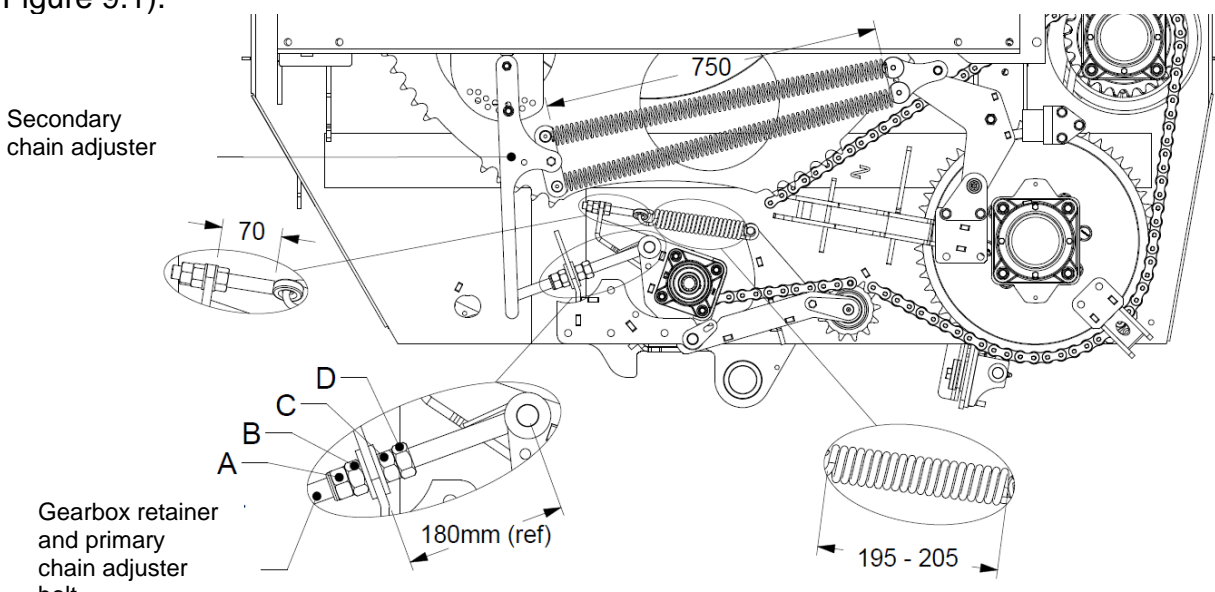

Figure 9.1: Chain tension details
- a)** With the ASA100 chain in place, tighten the threaded adjuster on the spring until there is approximately 70mm of thread seen between the ring holding the spring and the adjuster mounting plate. This setting will provide the required wrap around the idler sprocket (See Figure 9.1). Tighten locknut against shoulder plate as shown.
- b)** Tighten the gearbox retainer/adjuster bolt, using nut "B" until the slack is fully taken up and continue to tighten until the spring reaches 30–40 mm extension, **195–205mm** coil length (See Figure 9.1).
- a)** The spring assembly on the secondary chain tensioner should be set such that there is approximately **750 mm** extension on the spring, measured on the viewable coiled section (See Figure 9.1).